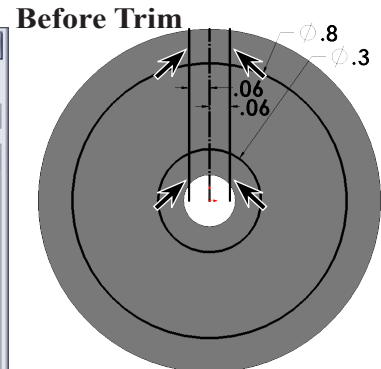
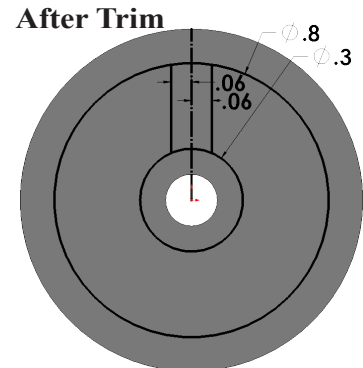

Fig. 12
Fig. 13
Step 3. Trim away lines outside big circle and inside small circle, Fig. 12. Click line you want to trim away. Results shown in Fig. 13. Click OK  when done.